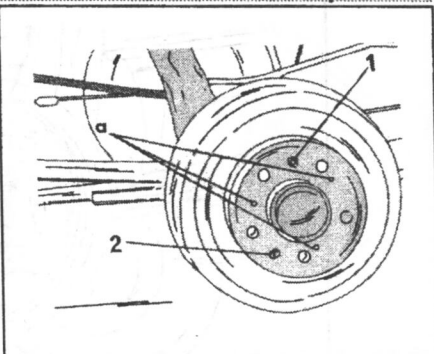

Fig. 7.11. — Removal of a brake drum. Remove the guide pin (1) and the securing screw (2). The extractor bolts are fitted into bores "a".
- Unscrew the guide pin for the wheel (1) and the screw (2) in Fig. 7.11 and remove the brake drum. The drum will be very tight and you will need three M10 x 1.25 bolts to withdraw it. Screw the bolts into the threaded bores "a" and tighten
- Fit the brake drum and tighten it in position by means of the guide pin and the securing screw (see Fig. 7.11).